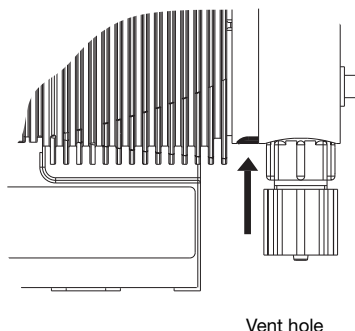

Fig. 13
- ▶ Check that the liquid end is generally watertight (especially vent hole! See fig. 13).
- **The leakage hole must point downwards when the pump is fully assembled (see fig. 13)**
- **Position the top plate correctly on the pump housing. Do not distort the top plate on the pump housing, otherwise the safety diaphragm (5) will not fit.**
- ▶ Lay the diaphragm (3) into the top plate (4).
- ▶ Hold the top plate and screw the diaphragm (3) in a clockwise direction until it is firmly in position (you will feel the resistance of the return spring).